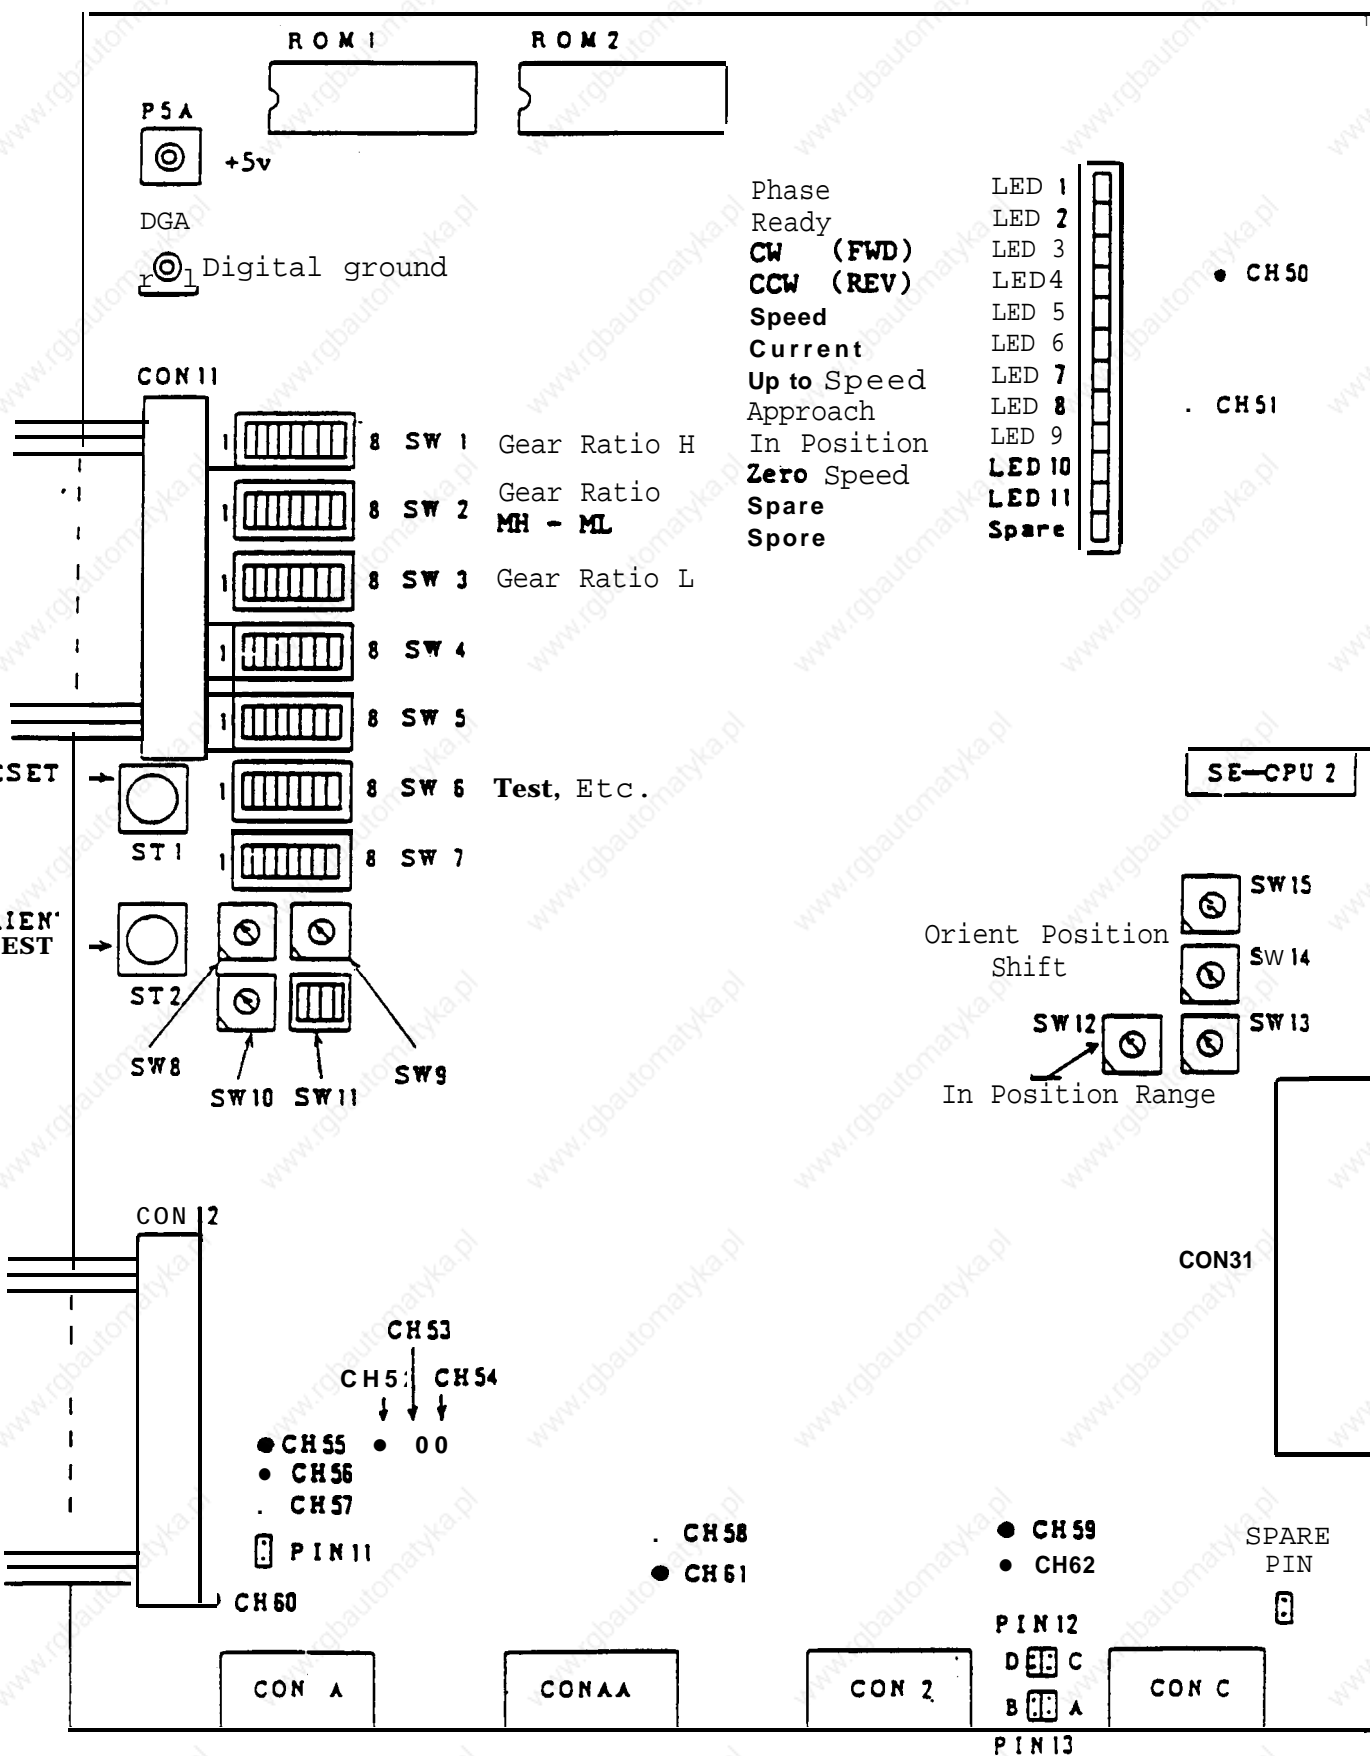

Figure 6
Refer to Figure 6 for location. Switch: (ON/OFF)
(3) SE-CPU2 Card: **Set shorting pins (PIN11 through PIN13)** the same as the original card. **Set dip and rotary switches SW1** through SW15 the same as the original **card**. Refer to Fig. 6.
(1) Normally PLG adjustment is not necessary. The PLG should be adjusted in open loop to prevent the spindle drive from responding to PLG signal loss while adjustments are made. Caution: In open loop sudden speed changes can cause damage.
(2) With the CNC OFF. Set **SW6-2 OFF** (Open loop) and press ST1 (Reset) on the SE-CPU card. Refer to Figure 5 (**SE-CPU1**) and Figure 6 (**SE-CPU2**) for location.
(4) Caution: Increase and decrease motor speed slowly in open loop or damage may occur. Bring the spindle motor up to about 1800 RPM slowly in the **FWD** direction. See note on command RPM vs gear range. Make RPM adjustments manually if possible.